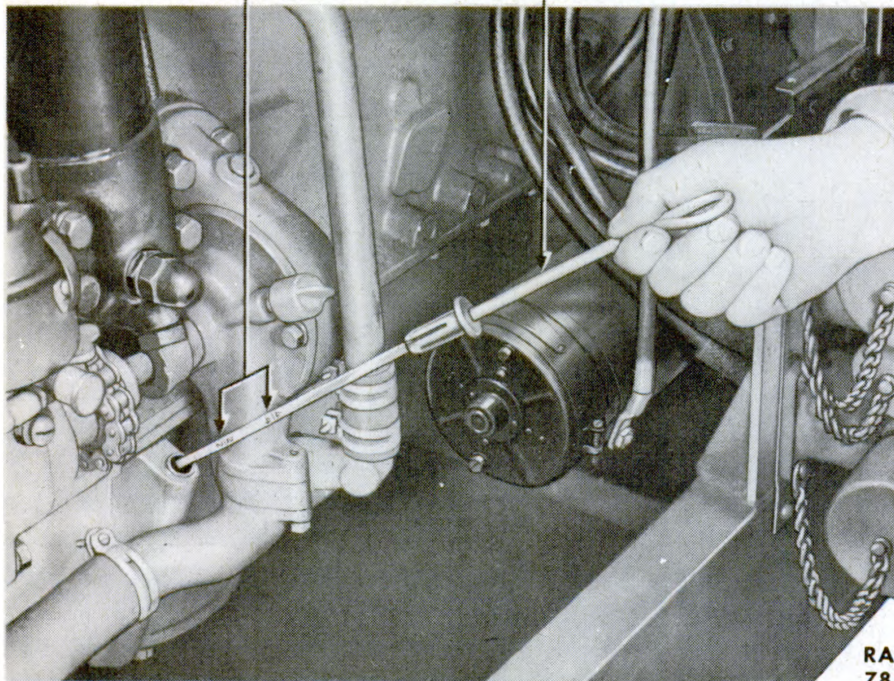

Figure 10 – Checking Oil Level
(1) Fill the engine crankcase oil pan (through the filler pipe) to the proper level, as indicated by the "4/4" mark on the bayonet-type level gage (fig. 10). Since allowance must be made for the oil filter capacity, it will be necessary to run the engine a few minutes, recheck the level, and add oil to the "4/4" mark.
f. Never permit the oil to fall below the "2/4" mark on the bayonet gage (fig. 10). On the other hand, do not overfill the crankcase, as this might raise the oil level to a point where the connecting rods would dip in and throw oil on cylinder walls, causing smoke, oil pumping, excessive carbon deposits, and fouled spark plugs. Fill only to the "4/4" mark on the gage rod, except as indicated in section VI, for operation below zero F.
b. **Leaks, etc.** Examine fuel, water, and oil lines for leaks. Fill the fuel tank. If necessary, change the engine oil, or add oil to maintain the correct level (fig. 10). Add water or antifreeze solution to radiator, if required (par. 4 c).